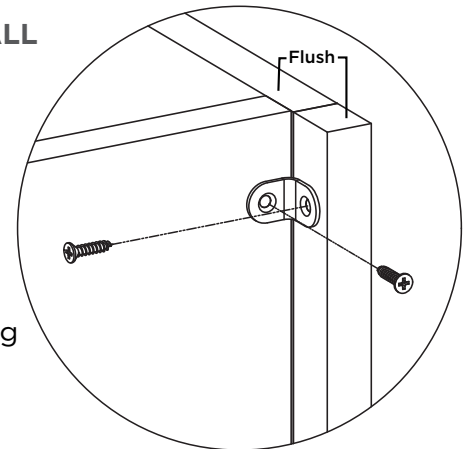

Figure 13
- Install one strip on either side of the cabinet run using four single-hole angle brackets and 2 stainless steel 1/2" screws, making sure the Filler strip is flush with the top, (Figure 13).